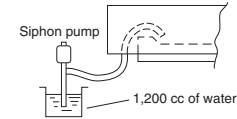

Fig. 3-15
- Pour about 1,200 cc of water into the drain pan using a siphon pump through the air outlet grille. (Fig. 3-15)